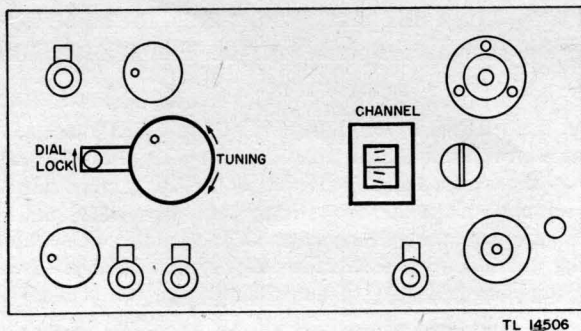

Figure 26. Radio Receiver and Transmitter BC-1000-A, CHANNEL dial.
a. TUNING TO OPERATING CHANNEL. From time to time it may be necessary to change from one operating frequency or channel to another. The CHANNEL dial is divided into 41 channels; the selected channel should be tuned to appear directly under the dial indicator hairline. The frequency difference between each channel is 200 kilocycles (kc), over a frequency range of 40.0 to 48.0 mc (40,000 to 48,000 kc). (See fig. 26.)